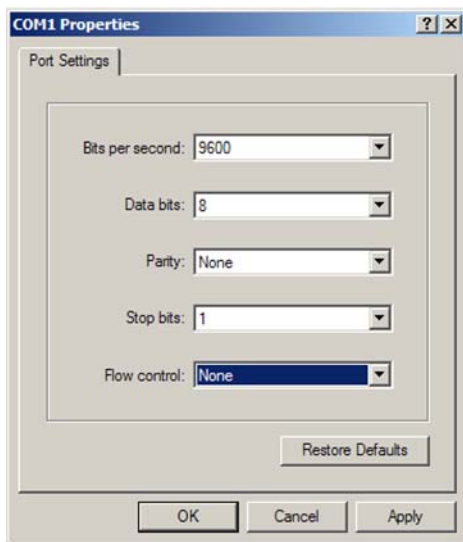

Figure 1
5. In the 'COMx Properties' window select the settings as shown in Figure 1 and click OK.